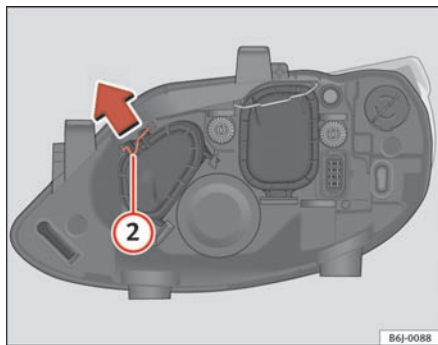

Fig. 134 Main beam headlights
- Remove the loop (2) in the direction of the arrow and remove the cover ⇒ fig. 134.